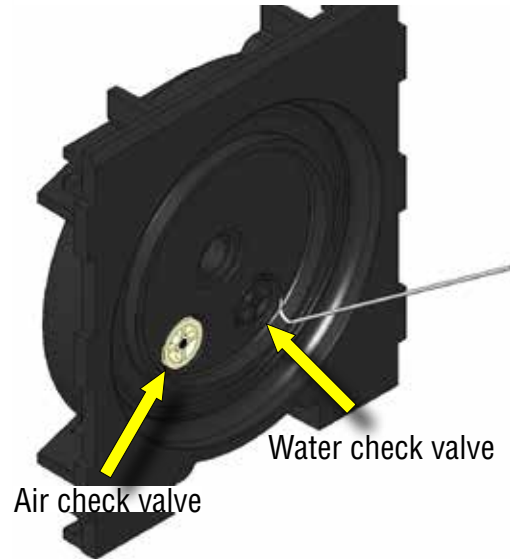
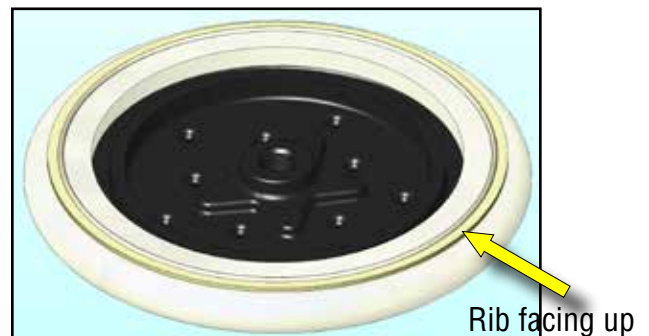

**FIG 24-1 Remove thumbscrew**
**FIG 24-2 Remove sprayhead/seal assembly**
**My Café AP:** Remove top cover. Remove thumbscrew. FIG 24-1. Open door and remove sprayhead/seal assembly (You may need to push sprayhead/seal assembly down with a screwdriver). FIG 24-2.